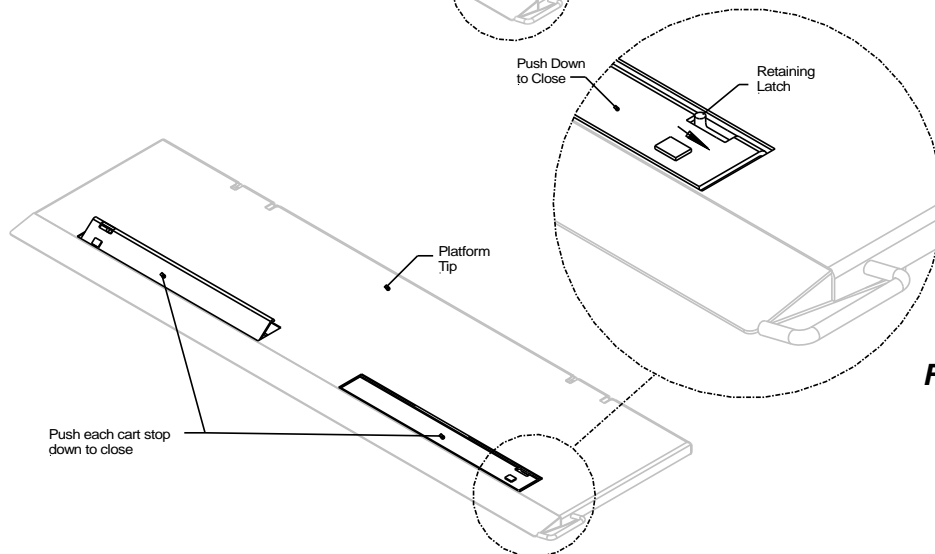

Fig.19
2. To close the cart stop, push and hold each cart stop down in close position and lock each cart stop with the retaining latch, **Fig. 19**.